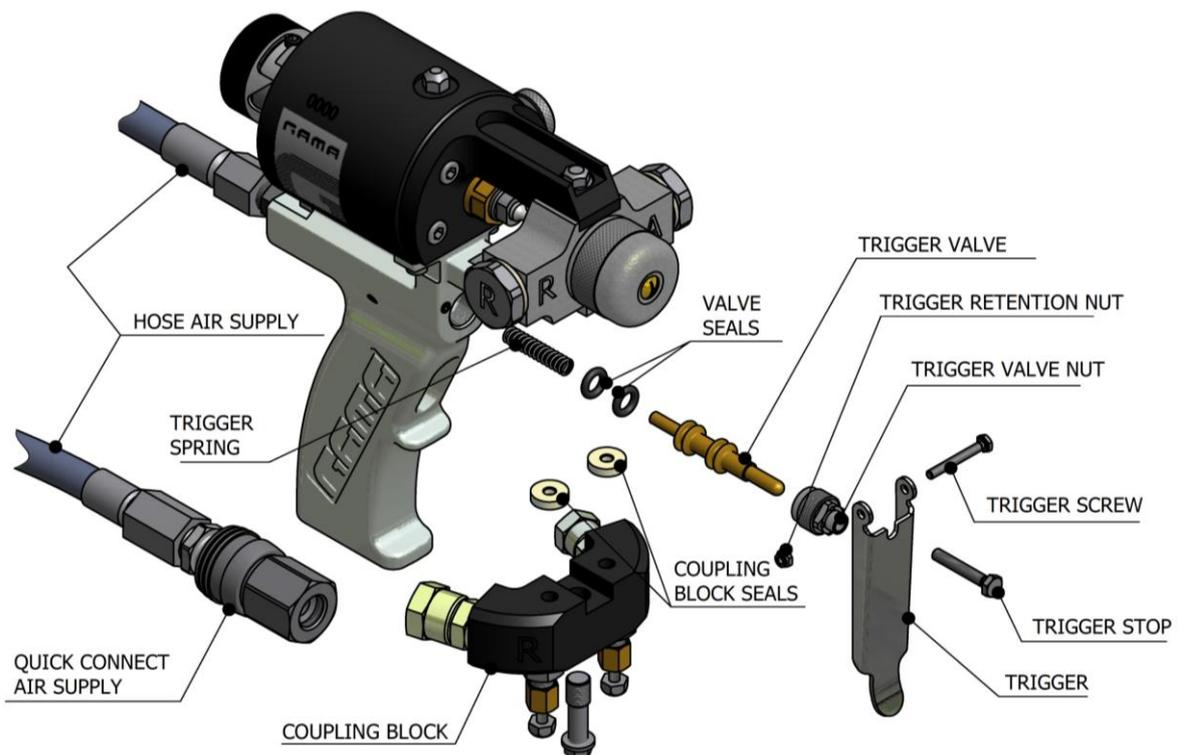

Figure. 21
4. Unscrew the trigger stop bolt (see **Figure. 21**).
5. Remove the retention nut, the screw and the trigger (see **Figure. 21**).
6. Unscrew the trigger valve nut (see **Figure. 21**).
7. Remove the valve. The valve has a spring inside it, take care not to lose it (see **Figure. 21**).